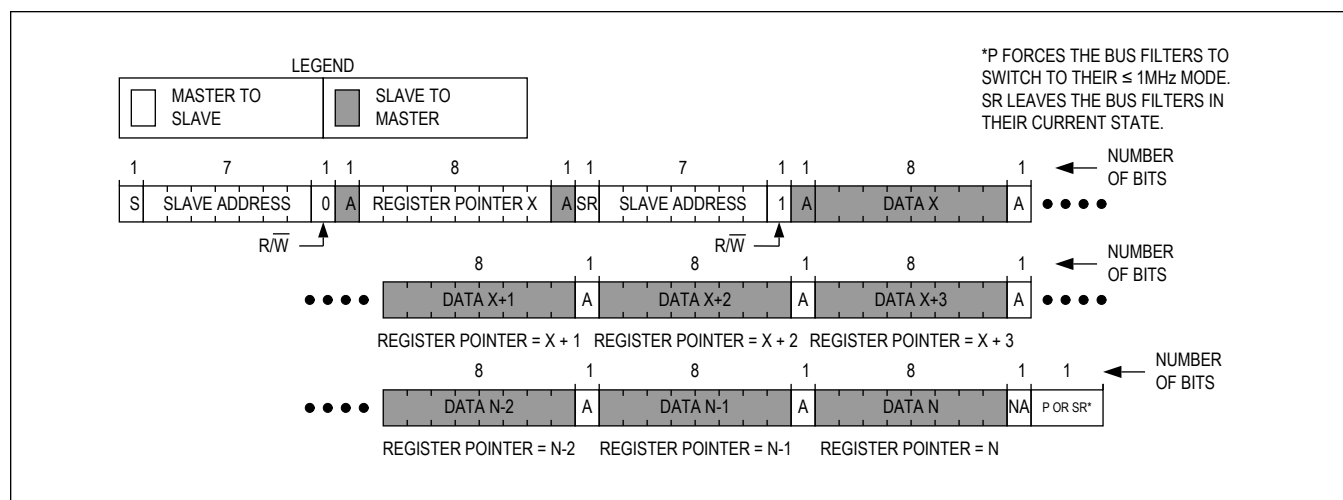

Figure 34. Reading Continuously from Sequential Registers X to N
Figure 34 shows the protocol for reading from sequential registers. This protocol is similar to the read byte protocol except the master issues an acknowledge to signal the slave that it wants more data: when the master has all the data it requires it issues a not acknowledge (nA) and a stop (P) to end the transmission. The continuous read from sequential registers protocol is as follows:
1. The master sends a start command (S).
3. The addressed slave asserts an acknowledge (A) by pulling SDA low.
10. The master issues an acknowledge (A) signaling the slave that it wishes to receive more data.